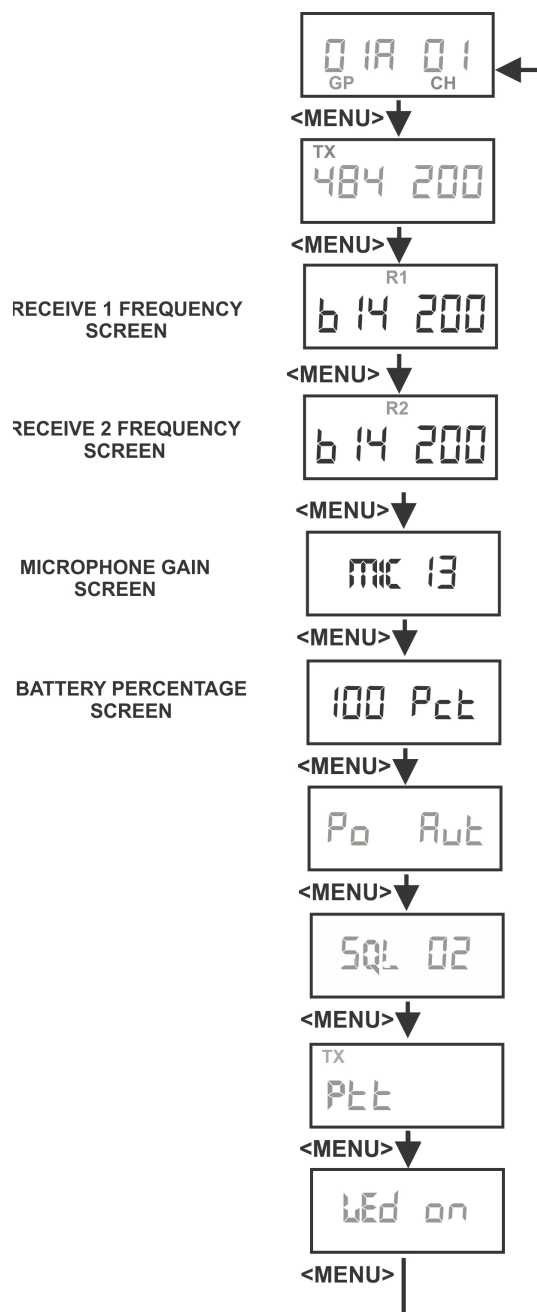

FIGURE 75. Receive Frequencies
1. Set the **unit** to the desired user-defined group and channels. *See Groups and Channels Instructions. The menu structure in Figure 75 indicates how to get to the receive frequency screen.*